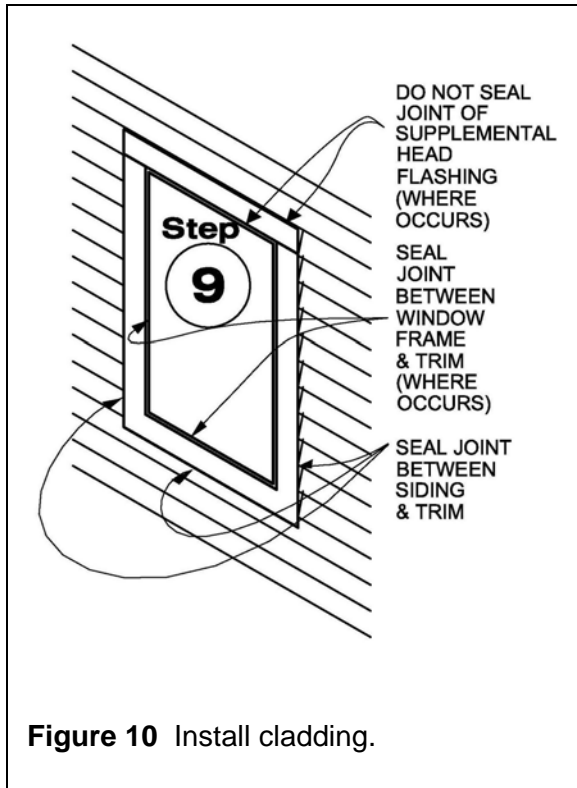

Figure 10 Install cladding.
Step 9. Install trim and/or exterior wall cladding around perimeter of window. Seal perimeter joints per the recommendations of the cladding and window manufacturers (see Figure 10).